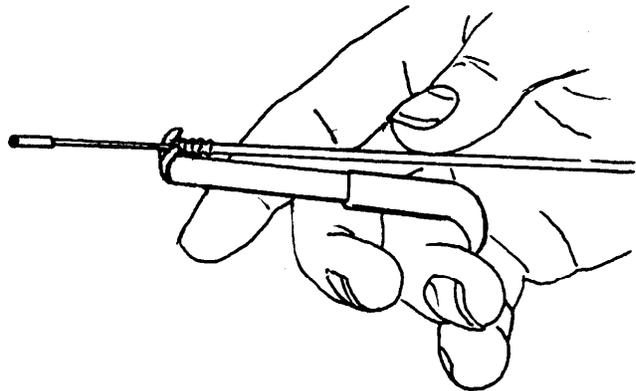

Figure 3. Use of Wire Stripping Tool.
4.03 For the wrap and solder connections, only one conductor is to be stripped at a time. Strip the conductor of its insulating cover by pulling away from the skinner point with a straight pull, taking care not to nick, scrape, or damage the wire with the stripping tool. See Figure 3.